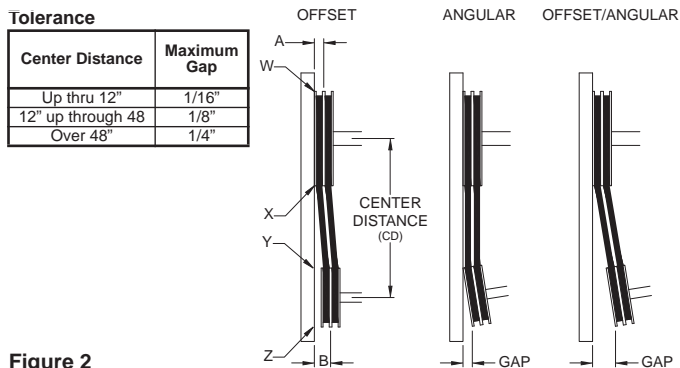
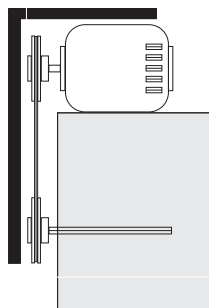

Figure 2
Figure 3
- Ensure pulleys are properly aligned. Refer to *Figure 2*.
*Figure 2* indicates where to measure the allowable gap for the drive alignment tolerance. All contact points (indicated by WXYZ) are to have a gap less than the tolerance shown in the table. When the pulleys are not the same width, the allowable gap must be adjusted by half of the difference in width (As shown in A & B of *Figure 2*). *Figure 3* illustrates using a carpenter's square to adjust the position of the motor pulley until the belt is parallel to the longer leg of the square.